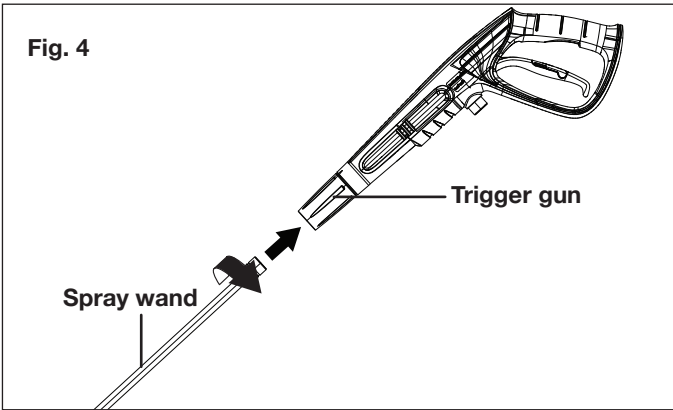

Fig. 4
4. Fit the spray wand into the trigger gun and rotate it until the two parts are completely locked (Fig. 4).